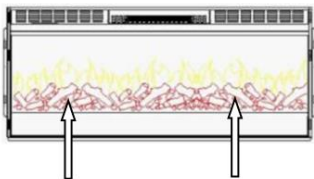

Figure 1.
- C. Place the unit face down on a soft, non-abrasive surface. Remove the bracket from the back of the unit by removing the screws (See Fig. 1).
- B. To install the logs, remove the logs from its packaging and insert it into the fireplace (Fig. 1).